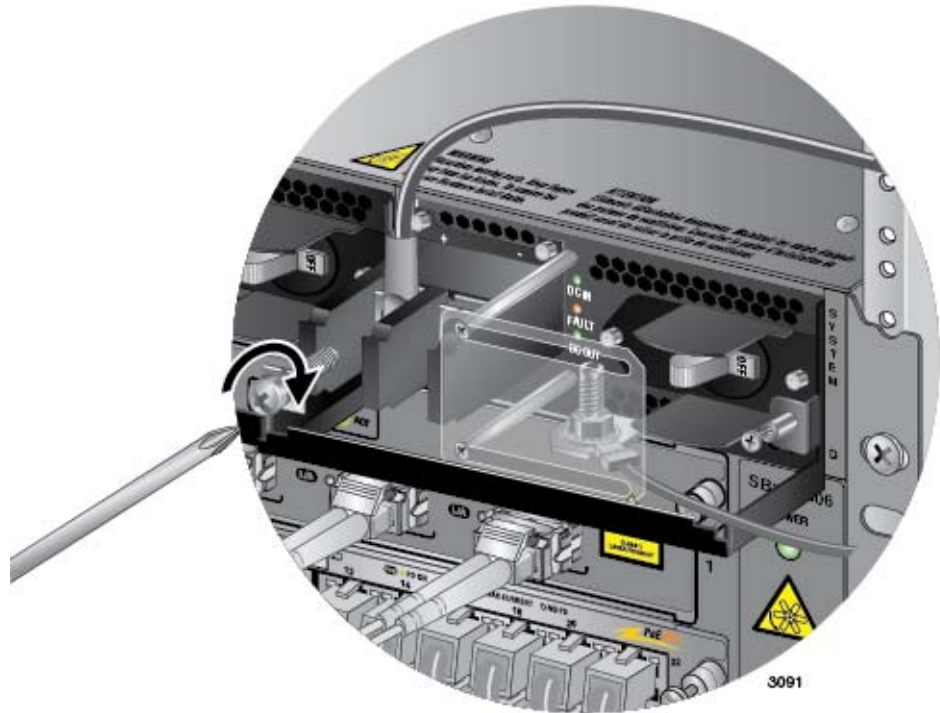

Figure 140. Connecting the Positive (+) Power Wire with a Straight Terminal
6. With a #3 Phillips-head screwdriver, connect the positive (+) power lead wire to the positive terminal on the power supply, with one of the terminal screws removed in the previous step. The positive terminal is on the left. You may attach the terminals with the wires either above or below the terminal block. Figure 140 shows the positive wire above the terminal block.